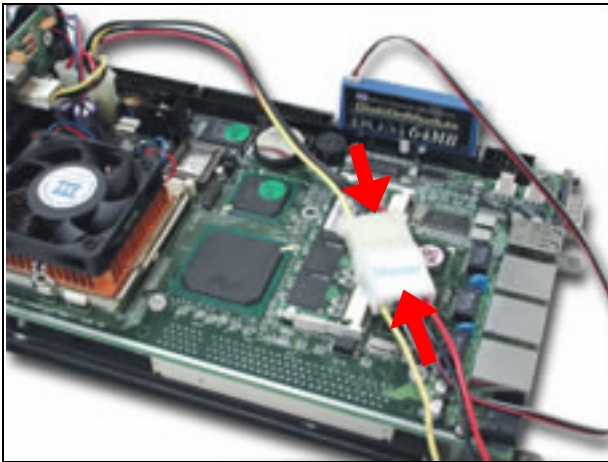

Fig. 2-17 Connect power to DOM
1. Insert the DOM (*Fig. 2-16*) into the IDE interface (*Fig. 2-17*).
1. Connect the power source to DOM (*Fig. 2-17, 2-18*).